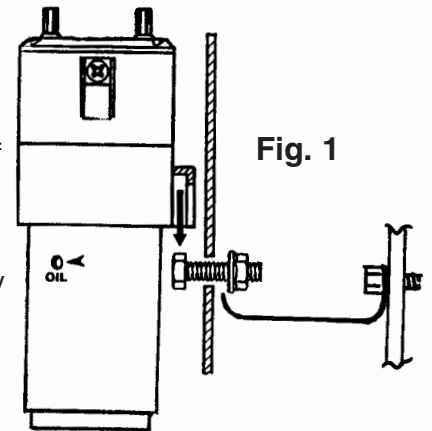

Fig. 1
1. Install the compressor in the engine compartment in a dry location and safe from engine and exhaust manifold heat. The compressor must be mounted on a metal body surface. **If your compressor is not bolted to metal**, use a piece of 16-gauge wire and connect one end under mounting bolt, and ground other end under any metal body bolt that is clean of print and rust. Compressor must be grounded. (See Figure 1).
2. To secure the compressor, drill a 3/16-inch hole. Mount the compressor vertically (air outlets on top). Install the head of the bolt into the slot on the compressor's housing. Secure the compressor to the vehicle using the lock washer/nut provided (Figure 1).